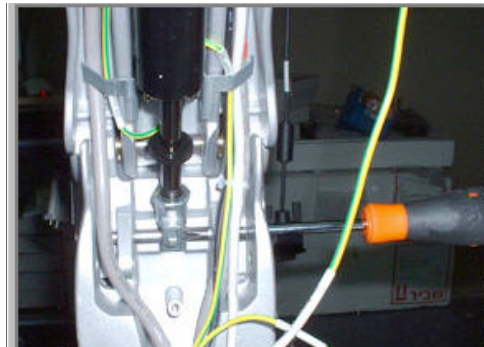

Figure 8-112 Tapping out the Lower Support Pin using a Punch
- 4.) Tap out the internal supporting pin using a punch - Figure 8-112.